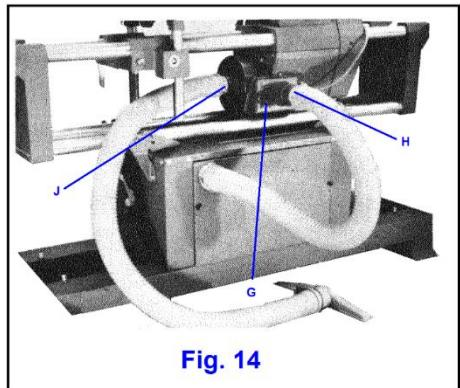

Fig. 14
11. Connect discharge hose. Plug other end of hose into impeller outlet duct opening ("G", Fig. 14). On some units the duct has two outlets, one direct and one offset ("H"). The offset opening allows vacuum to be used when carriage is next to headstock. Plug unused hole with push-in plastic cap provided.
12. Connect vacuum hose. Plug long hose into impeller housing inlet ("J", Fig. 14) and your machine is ready to run.